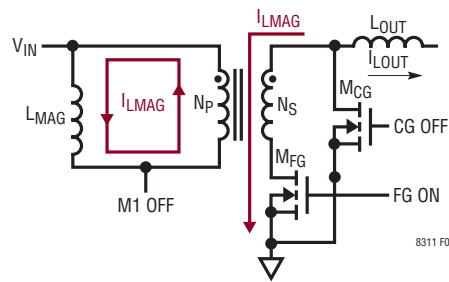

Figure 3. With FG On,  $I_{LMAG}$  Is Conducted Through  $M_{FG}$  to Ground on the Secondary Side When M1 Turns Off
the primary winding voltage gets smaller too, effectively moving SWP towards  $V_{IN}$ . Since  $M_{FG}$  is still on, and  $M_{CG}$ 's body diode is on, the secondary winding voltage gets clamped at about a diode voltage. Through transformer action, SWP gets clamped to approximately  $V_{IN}$ .  $I_{LMAG}$  flows in the secondary windings, as shown in Figure 3, flowing from the drain to source of  $M_{FG}$ , to ground.  $M_{CG}$ 's body diode sources  $I_{L_{OUT}}$  and  $I_{LMAG}$ .
2. **Resonant Reset Case (blue waveform):** Resonant reset ultimately completes when SWP's quasi-sinusoidal waveform returns to  $V_{IN}$ , by which point  $I_{LMAG}$  is reset to a negative value. FSW is eventually clamped by  $M_{FG}$ 's body diode, and conducts  $I_{LMAG}$ , through the secondary windings, towards the output inductor (similar to Figure 3, but with  $I_{LMAG}$  direction reversed on primary and secondary sides). With a diode voltage imposed across the secondary windings, transformer action